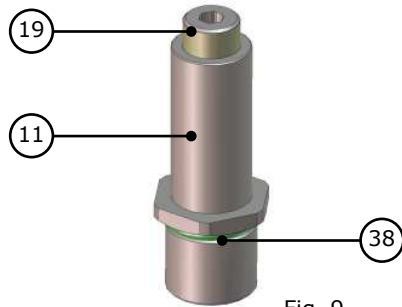

Fig. 9
- 11)** Sostituire e lubrificare O-ring 015 (38) montato sul campanile (11), (fig.9);
*Replace and lubricate the O-ring 015 (39) mounted on piston housing (11), (fig.9);*